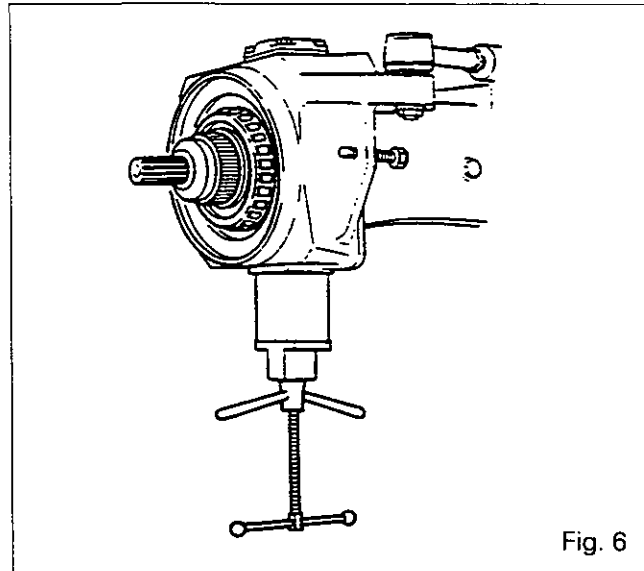

Fig. 6
51. Remove seal (45) if necessary using the relevant puller or a system locally designed. Remove the pin and the nut from the steering ball joint. Extract the ball joint.
52. Fit a suitable sling on the swivel housing (47).
53. Remove the bolts (1), the cover (15) and the cup (14). Extract the swivel pin (11) (Fig. 6) using tool MF451B and end fitting MF451B3 (Refer to section I).
54. Remove the bolts (1) and the cover (2). Remove the shims (3) and the cup (4). Extract the swivel pin (7) as already described for the power pin (Fig. 6). If necessary, extract the cones (5) and (13) from the swivel pins.
55. Protect the splines on the universal drive shaft so that the seal (16) is not damaged.
56. Remove the swivel housing (47).
57. If necessary, remove the seal (16) and drive out the bush (17).